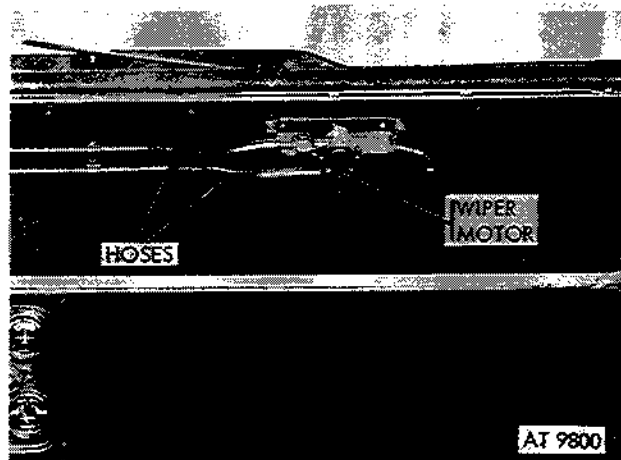
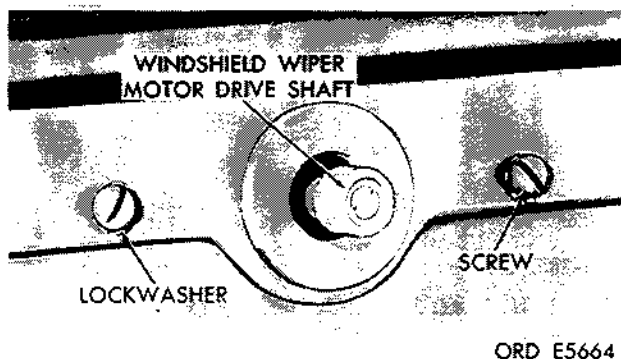

Figure 2-387. Remove rubber hoses at windshield wiper motor (M151, M151A1, M151A1C, and M718 vehicles).
Figure 2-388. Remove windshield wiper motor (M151, M151A1, M151A1C, and M718 vehicles).
(1) Remove rubber hoses at windshield wiper motor (fig. 2-387).
(2) Separate wiper arm from motor shaft by pulling apart with hand or suitable tool. Wiper arms should be parallel to manual operating levers on windshield wiper motor.
(3) Remove two screws and pull wiper motor from windshield (fig. 2-388).